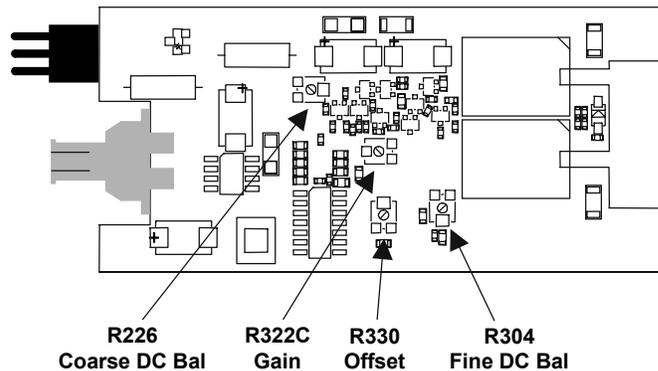

Figure 11. Amplifier Board Adjustment Locations
5. Adjust **Coarse DC Bal** (R226) on the amplifier board for an output voltage of $0\text{ mV} \pm 10\text{ mV}$. (See Figure 11 for location.)
8. Adjust **Fine DC Balance** (R304) until the **+10 EFFECTIVE GAIN** indicator lights. (See Figure 11.)
11. Adjust **Offset** (R330) to bring the trace back to exactly center screen. (See Figure 11.)
9. Adjust **GAIN** (R322C) so that the DMM reading is within ± 1 mV (0.5%) of the reading recorded in step F-6. (See Figure 11.)